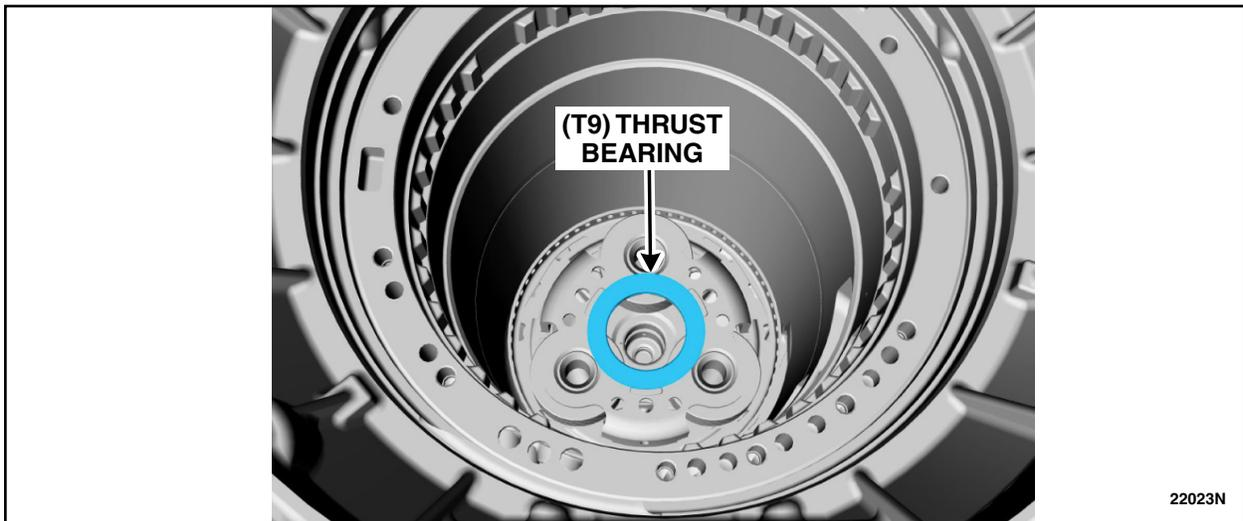

FIGURE 30
34. Install the (T9) thrust bearing. See Figure 30.